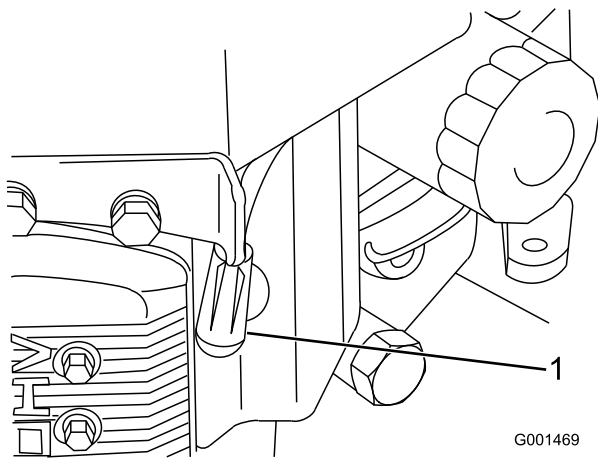

Figure 39
3. Disconnect the wire from the spark plug (Figure 39).